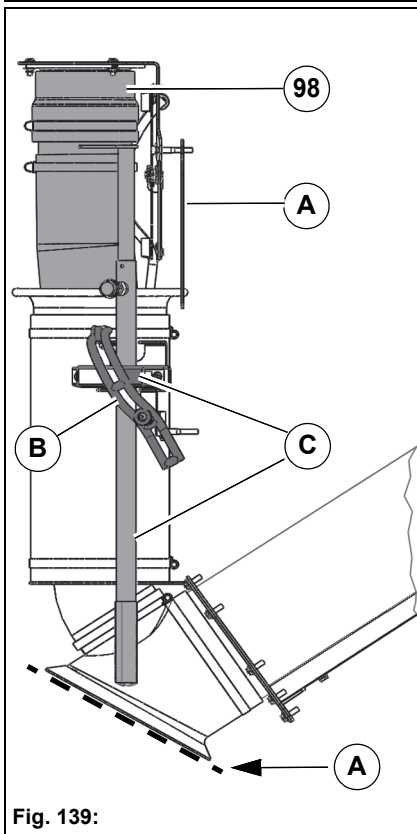

Fig. 139:
2. If necessary take the insert plate **Fig. 139-A** out from the holder and push it under the rubber seal.
3. Loosen the lock **Fig. 139-B** and pull the hand suction hose down and out from the holder.
4. Hold the hand suction hose with the handles **Fig. 139-C** and clean the surface. If required, adjust the handle rod to length with the locking bolt. After cleaning push the hand suction hose against the holder. The hand suction hose withdraws automatically due to the vacuum.